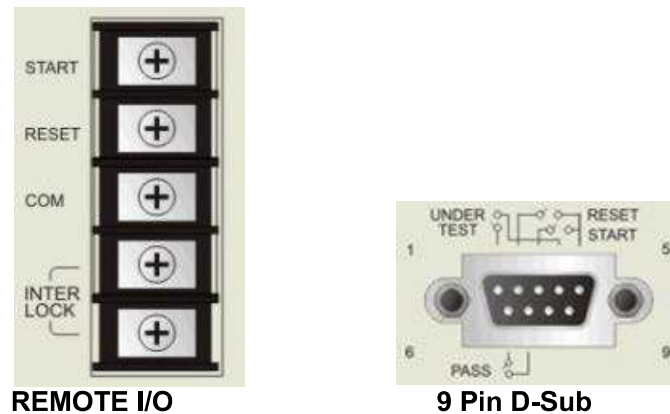

Figure 2-4
- Pin diagram of REMOTE CONTROL as *Figure 2-4*. When users to control by external, please remember this pin diagram.